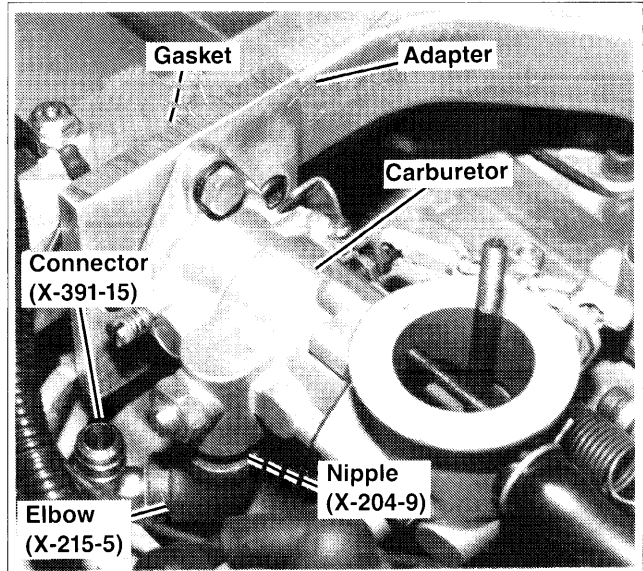

Figure 3. LP Carburetor Installation
4. Apply pipe joint sealant to connector (X-391-15), nipple (X-220-5), and elbow (X-215-9) and assemble as shown in Figure 3. Apply UL approved pipe joint sealant to elbow assembly and install in LP carburetor (A-277878). Elbow assembly should be positioned as shown in Figure 3.